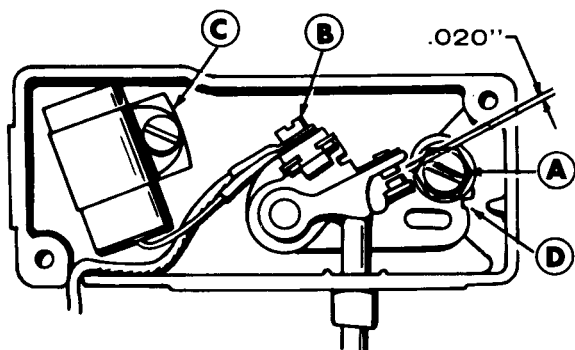
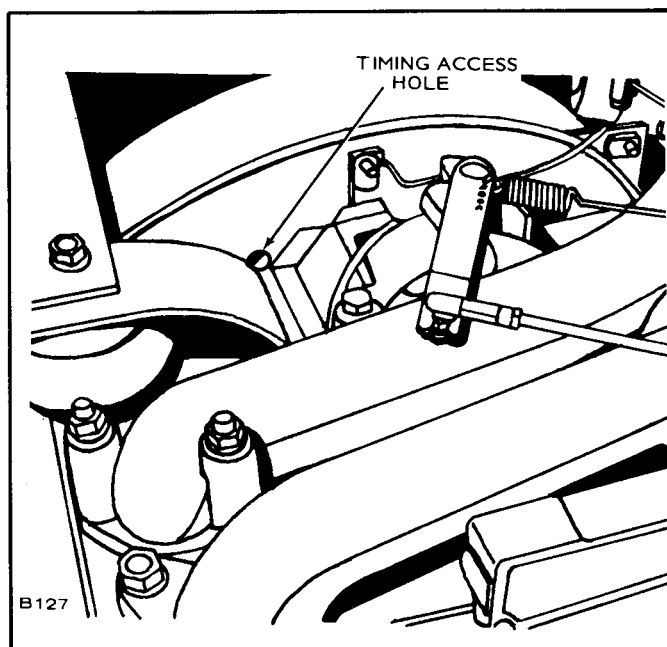

FIGURE 36. BREAKER POINT ADJUSTMENT
FIGURE 37. TIMING ACCESS HOLE
3. Refer to Figure 36. Remove mounting nut (A) and pull the points out of the box just far enough so screw (B) can be removed and leads disconnected.
4. Remove screw (C) and replace condenser with a new one.
5. Replace points with a new set but do not completely tighten mounting nut (A).
6. A small hole on rear of blower housing provides an access to view timing mark (Figure 37).
8. Using a screwdriver inserted in notch (D) on the right side of points, turn points until gap measures .020 inch with a flat thickness gauge. (Be sure feeler is clean.) Tighten mounting screw and recheck gap. Timing is automatically set at 25°BTC when point gap is .020 inch.